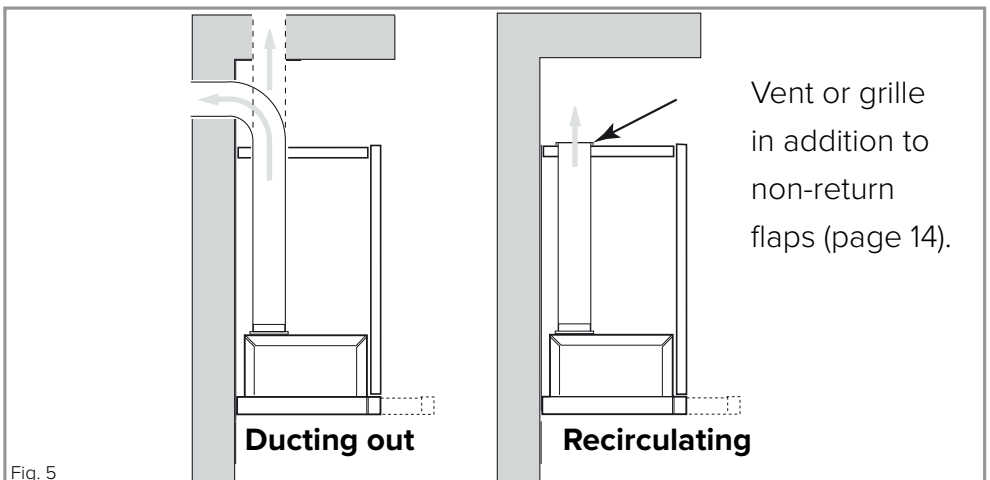

Fig. 5
**Please note:** If you are recirculating the air back into the kitchen, then ducting should be used to channel the air out of the unit. An example is shown below in Fig. 5. The non-return flaps (page 14) and a vent/grille or similar should be employed to prevent debris etc. falling into the ducting and extractor.